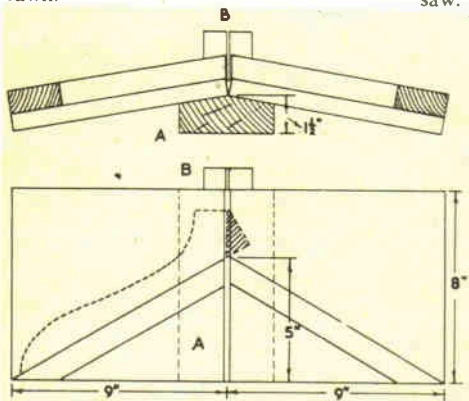
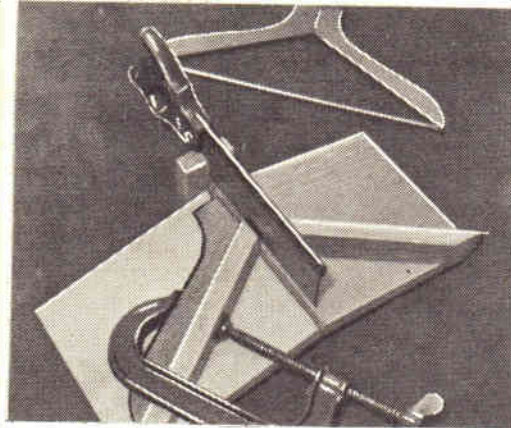

Fig. 1
Fig. 2
The construction of the jig is shown in Fig. 1. Screws or stout nails can be used for assembling the parts. The piece (A) should be made as wide as possible, so that a firm base is provided. The upright piece (B) down which a vertical saw-cut is made, will act as a guide for the tenon saw when the jig is in use (Fig. 2).